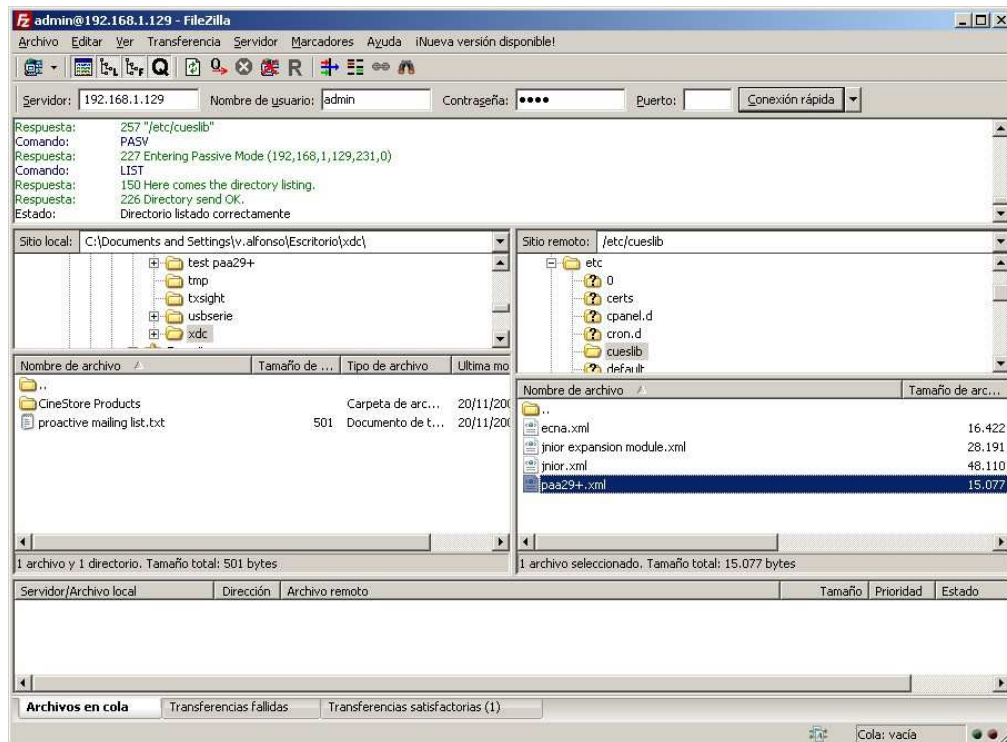

Figure 8.3.3A
2. Open an ftp client and connect to the server using the server IP, you must be logged as admin using the admin password supplied by Doremi. You can see an example in the **figure 8.3.3A**, for this example we used the "filezilla" ftp client, a server with the IP 192.168.1.129 and the admin login and password.
3. Once you are connected to the server via ftp, upload the "paa29+.xml" file supplied in the documentation and test CD to the "/etc/cueslib/" directory in the server. You can see the "paa29+.xml" loaded in this folder in the **figure 8.3.3A**. Now, you can set-up the output cues taking the commands from this library.